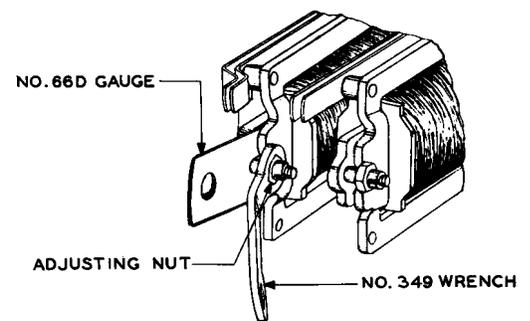

Fig. 18 - Method of Adjusting for Armature Travel
- (1) To adjust the armature travel, insert the proper blade of the No. 66D gauge and turn the adjusting nut with the No. 349 or No. 474A wrench until the gauge fits snugly (see Fig. 18).
- (2) Where no definite armature travel is specified, it should be kept as small as possible consistent with meeting the other requirements.